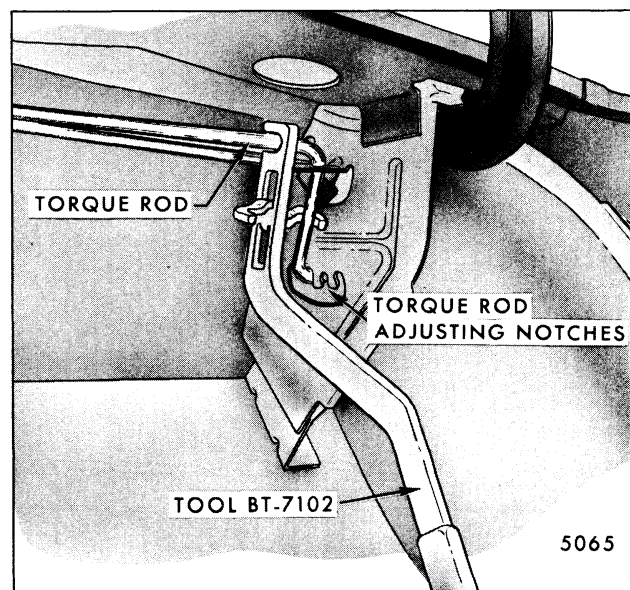

Fig. 7-23-Rear Compartment Torque Rod Adjustment - Oldsmobile "E" Styles
- d. On Oldsmobile "E" styles, use tool BT-7102 or equivalent (Fig. 7-23).